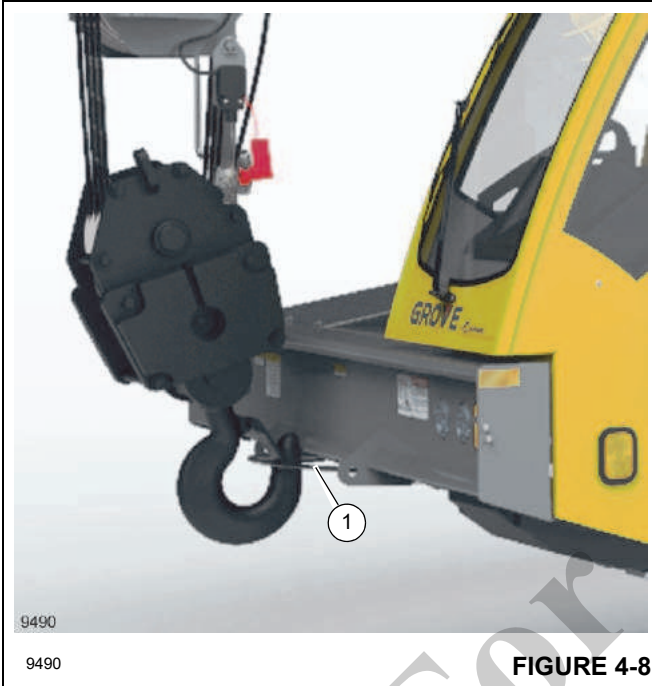

FIGURE 4-8
8. Latch the ball to the tie-down point (1), (Figure 4-8) and hoist up to remove slack.